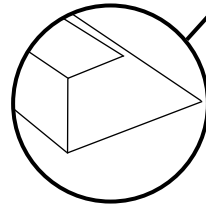

fig.1
- Position door side flashings and door top and bottom flashings and assemble door as shown, ensuring narrow face of flashing is on the front as per **fig.1**